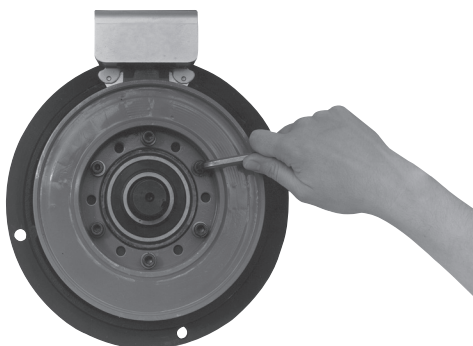

Figure 3
3. The field assembly is then fastened in place with capscrews and lockwashers. (Figure 3)